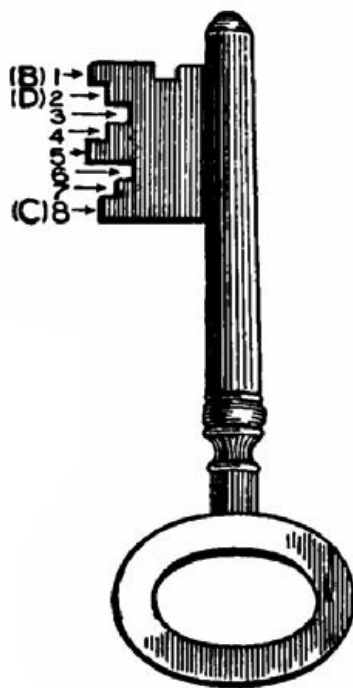

FIG. 217.—A Chubb key.
Fig. 217 is a Chubb key with eight steps. That nearest the head (8) operates a circular revolving curtain, which prevents the introduction of picking tools when a key is inserted and partly turned, as the key slot in the curtain is no longer opposite that in the lock. Step 1 moves the bolt.